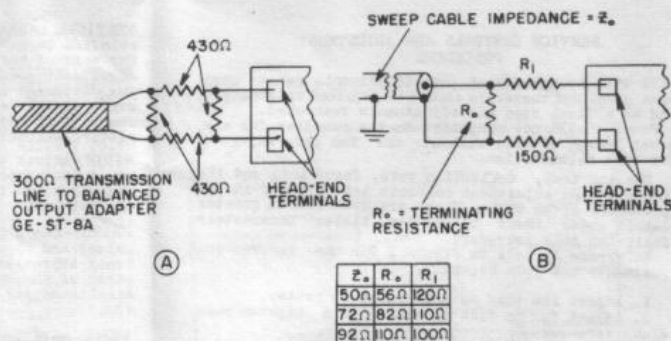

Fig. 20. Sweep Generator Termination
3. Balanced Output Adapter G-E ST-8A or Equivalent (See Figure 20 and RF Alignment, Note 1).
Impedance matching pad for r-f alignment as shown in Figure 20.